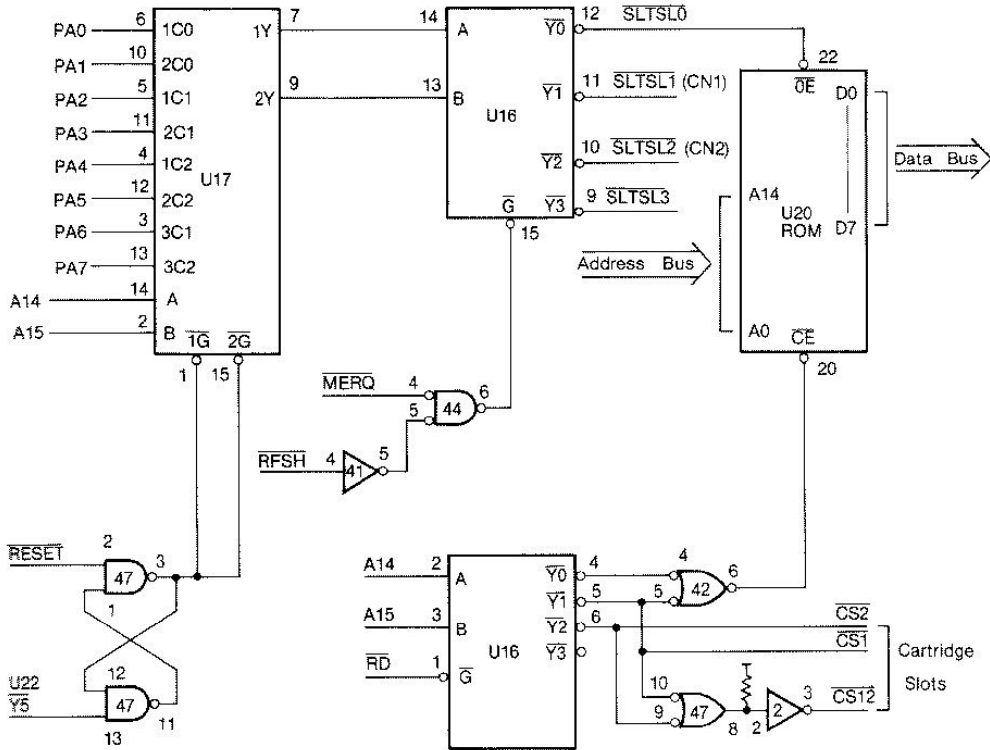

Fig. III-6
Fig. III-6 shows the unit's slot selection circuit. The data received from the PPI PA0-PA7 ports are divided into page unit slot select signals by U17 with the A14 and A15 address bus high-order 2 bits, these signals are decoded by U16 and slot select signals $\overline{\text{SLTSL0}}$, $\overline{\text{SLTSL1}}$, $\overline{\text{SLTSL2}}$ and $\overline{\text{SLTSL3}}$ are produced. The $\overline{\text{SLTSL0}}$ signal is used as the enable signal of only the ROM on the main PCB. The unit's RAM is accommodated in logical terms in slot 3 and so the $\overline{\text{SLTSL3}}$ signal is used as its enable signal. The signals which have NAND-ed the $\overline{\text{MERQ}}$ and $\overline{\text{RFSH}}$ signals are connected so that the slot select signals are not output to the U16 $\overline{\text{G}}$ pin (15) when the D-RAM is refreshed.
Apart from the slot select signals, it is stipulated that the ROM select signals listed below be output to the cartridge slots. Therefore, these signals are produced at U2, U47 and U16 using the address bus high-order 2 bits and \overline{RD} signal. (Refer to Fig. III-6.)